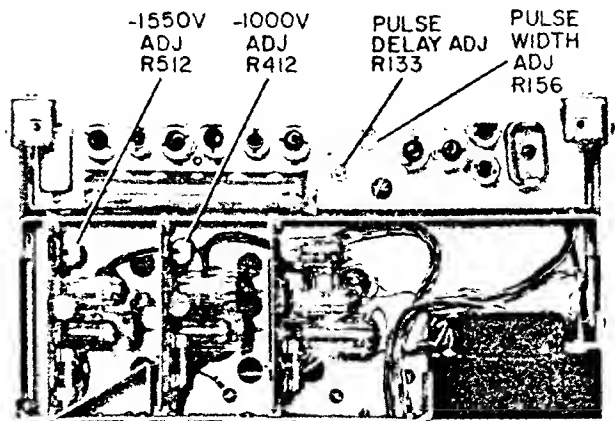

Figure 5-7. Location of Power Supply and Modulator Adjustments
- e. Adjust potentiometer R412 (Figure 5-7) for -1000 ± 20 volts. Line voltage regulation ($115\text{ V} \pm 10\%$) should hold the -1000 V supply to within $\pm 5\text{ V}$; ripple should be less than 10 mV, p-p. The -300 V supply could track the -1000 V supply to $-300 \pm 10\text{ V}$. Line voltage regulation ($115\text{ V} \pm 10\%$) should hold the -300 V supply to within $\pm 5\text{ V}$; ripple should be less than 10 mV, p-p.
- g. Adjust potentiometer R512 (Figure 5-7) for $-1550 \pm 20\text{ V}$. Line voltage regulation ($115\text{ V} \pm 10\%$) should hold the -1550 V supply to within $\pm 5\text{ V}$; ripple should be less than 15 mV, p-p.
d. Adjust potentiometer R133 (Figure 5-7) to give a delay of 300 μ s as measured on the calibrated Oscilloscope.
d. Adjust potentiometer R156 (Figure 5-7) so that width of pulse of 10 μ s as measured on the Oscilloscope.